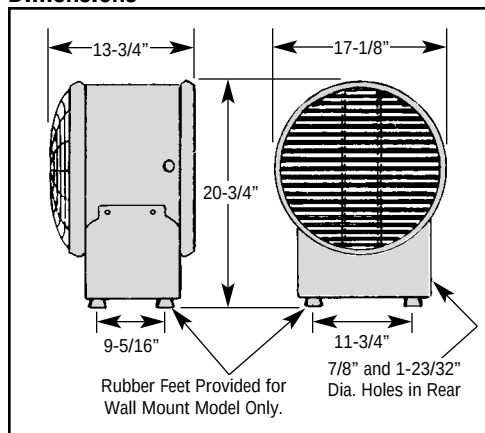

Figure 1
C. In either case, minimum mounting height is 7 feet from floor to bottom of heater (see Figures 1 and 2).